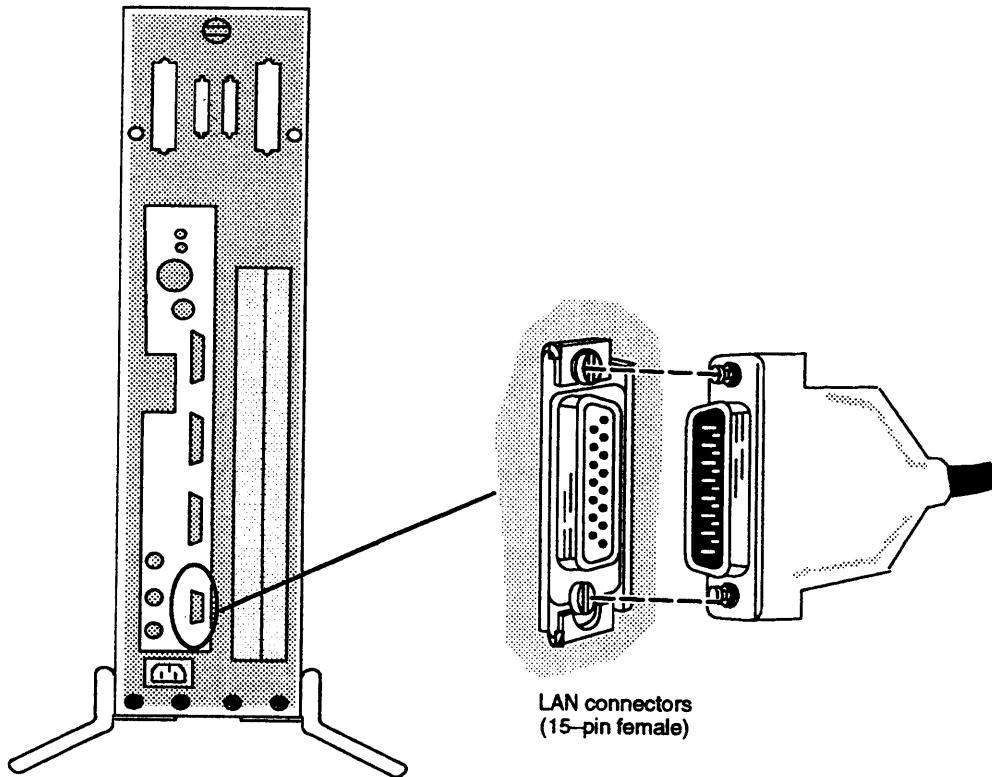

Figure 2-10 Connecting the LAN Transceiver Cable to the Computer Unit
3. Align the holes in the transceiver cable with the pins in the computer unit LAN connector, shown in Figure 2-10.